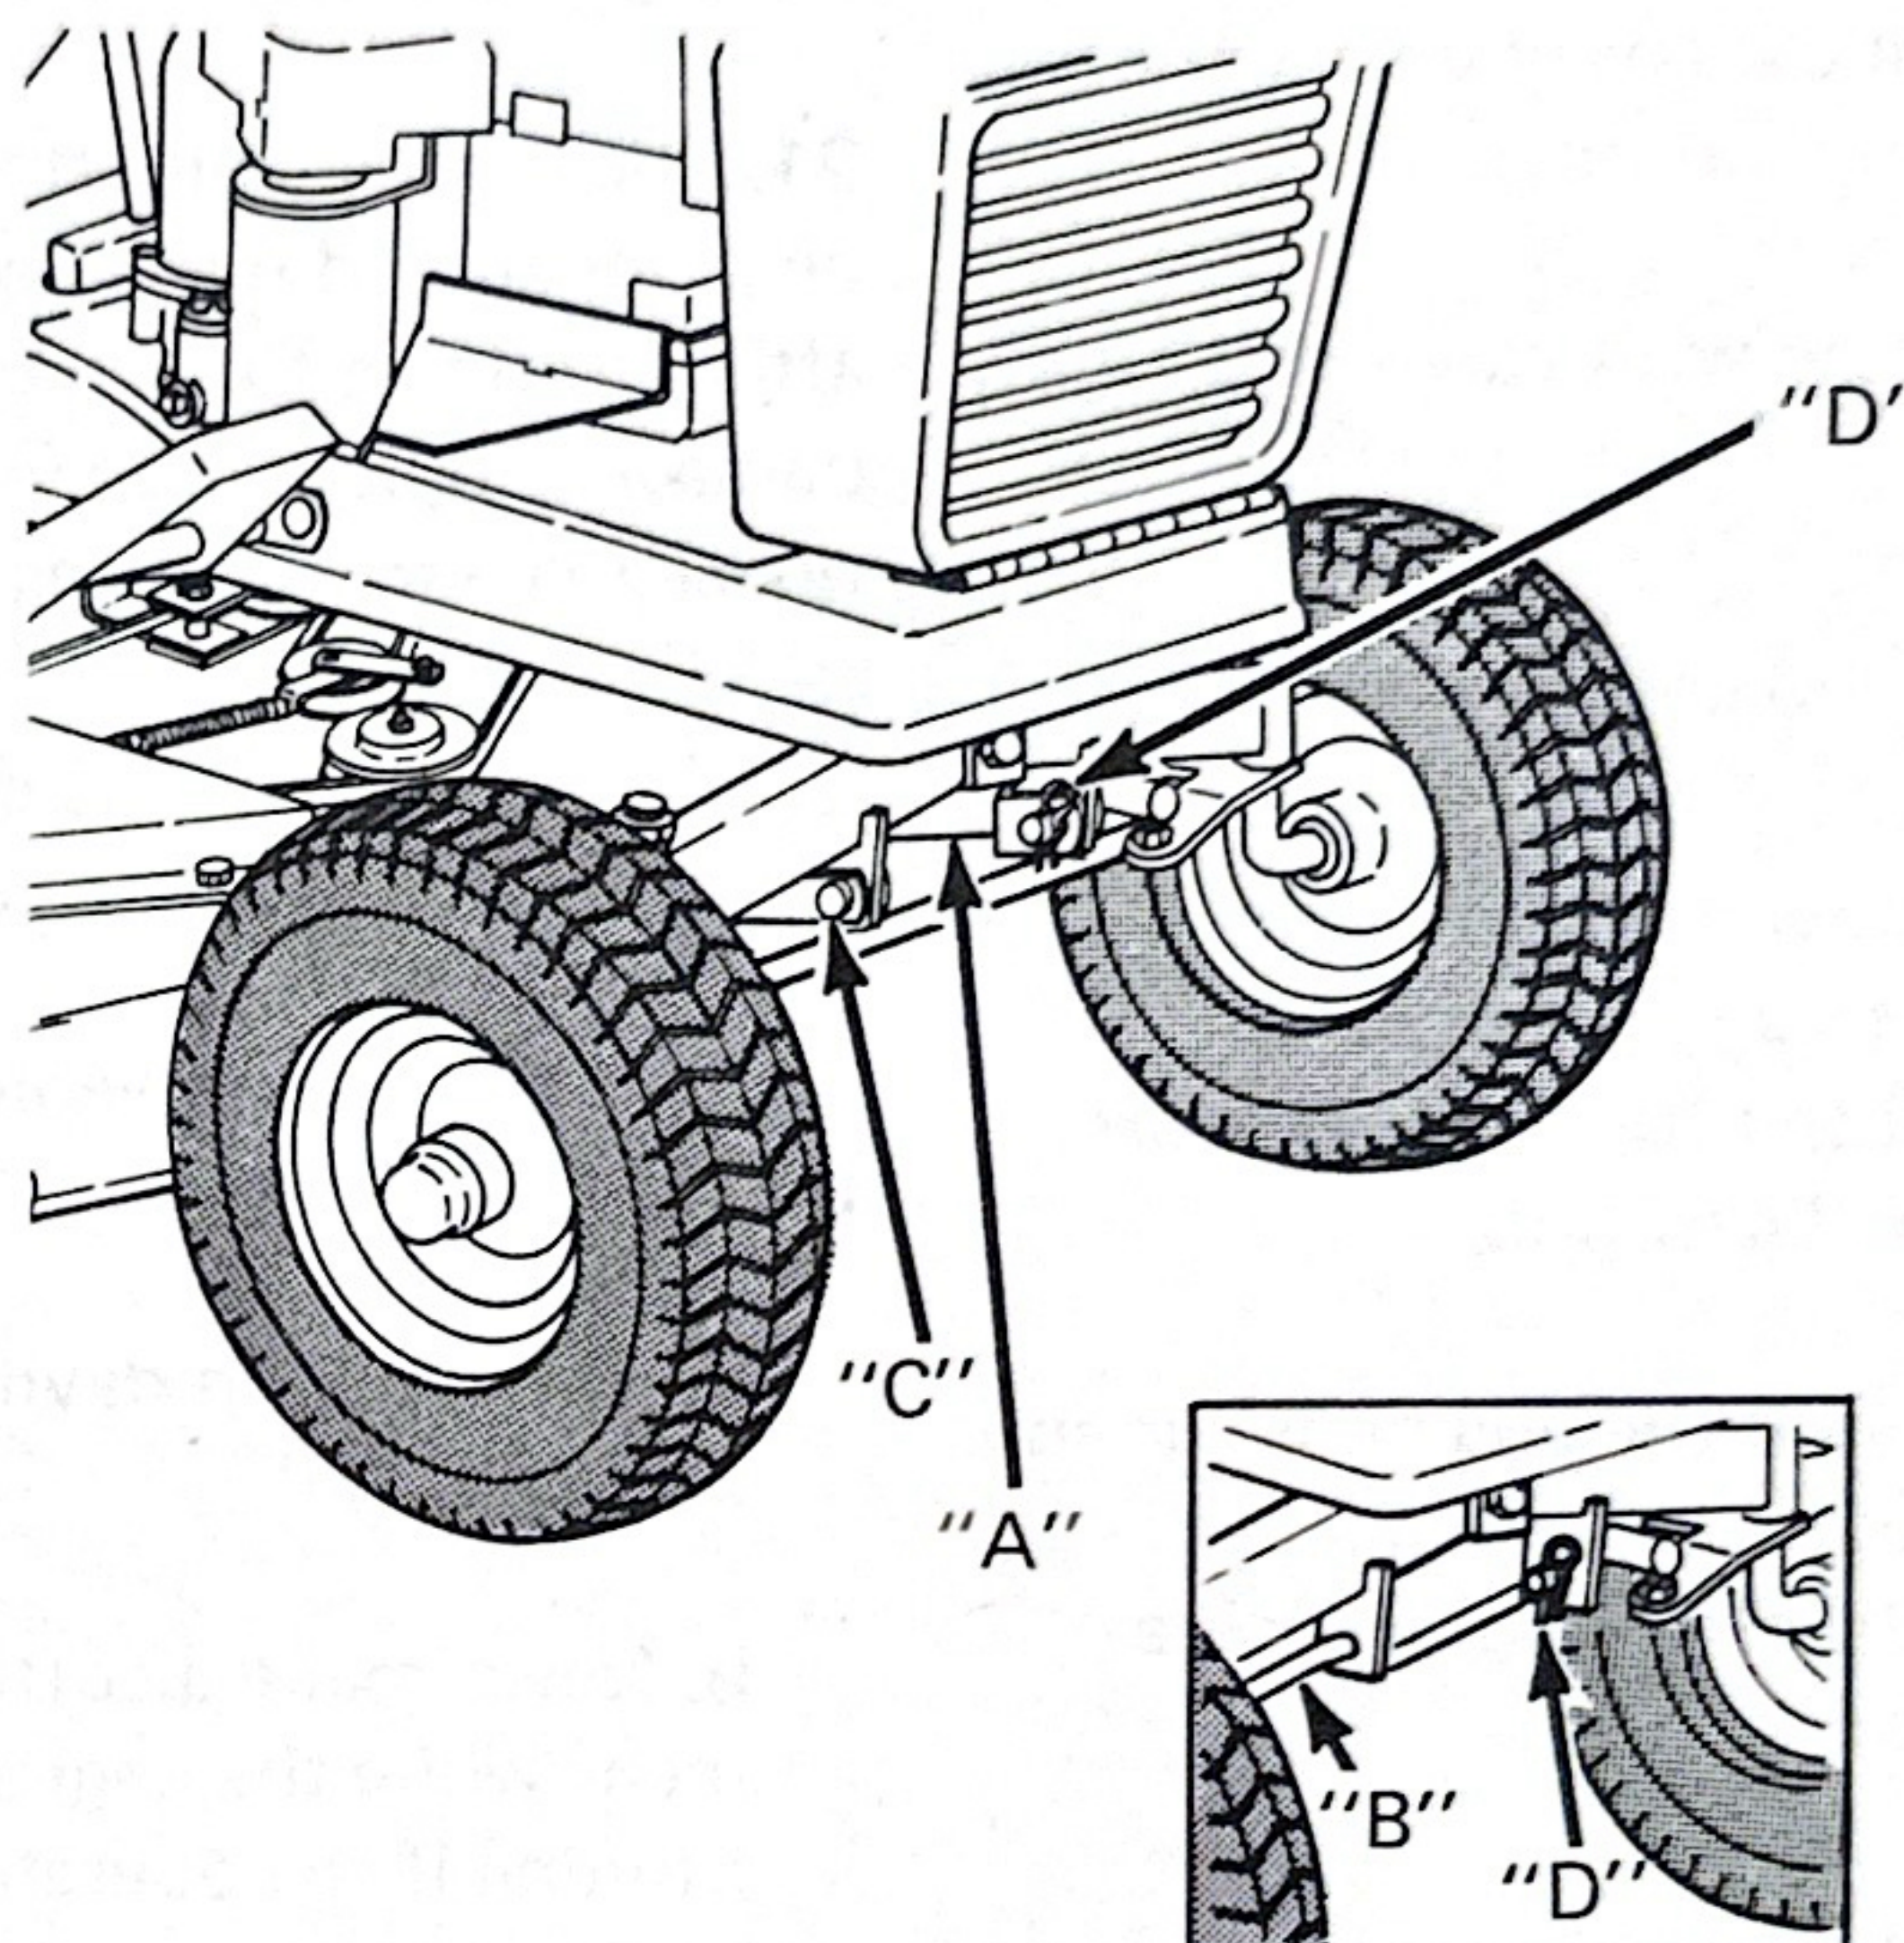

Fig. 2
2. Lift up front of mower deck and secure hitch arms, (A) Figure 2, (32" deck) or link arms (B) (38" & 42" decks) to tabs on front axle.